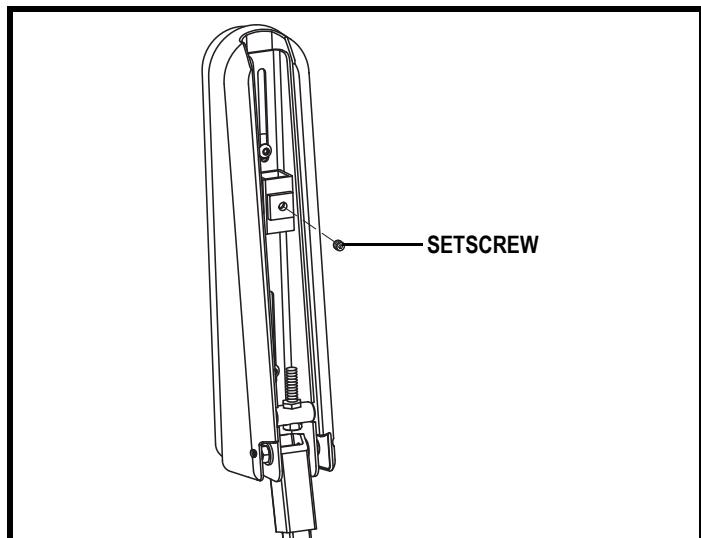

Figure 18. Underside of Armrest
2. Loosen the setscrew on the controller bracket. **See figure 18.**
5. Flip up the armrest and loosen the setscrew. **See figure 18.**